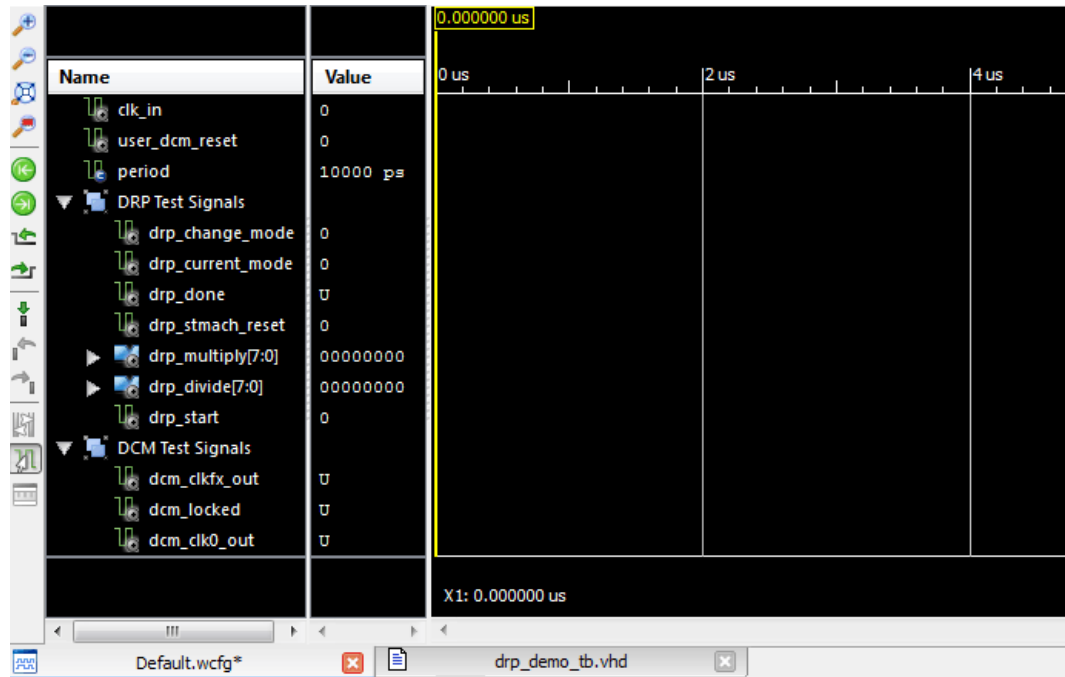

Figure 4-17: Adding Groups
3. Expand all the created groups. Your wave window should be similar to the one shown in Figure 4-17.